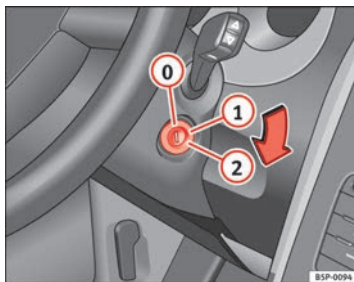

Fig. 136 Ignition key positions
In this position ⇒ fig. 136 the ignition and the engine are OFF and the steering may get locked.
- Turn the ignition key to position ⇒ fig. 136 ①. The indicator lamp  will light for engine pre-heating.
- When the warning lamp turns off, turn the key to position ② to start the engine. Do not press the accelerator.
- Turn the ignition key to position ⇒ fig. 136 ①.